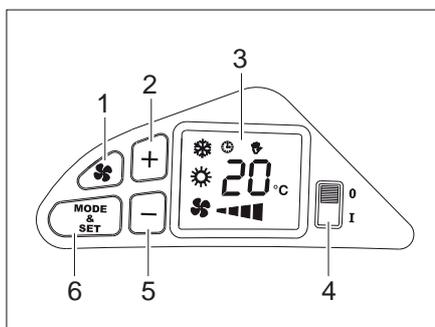

Fig. 127 Operating panel
- Switch on the air conditioning unit with the switch (Fig. 127,4). When it is switched on, the system always waits 2 minutes before it switches on the compressor and changes to automatic operating mode.
- Select the desired operating mode using the button (Fig. 127,6).
- The symbols in the display (Fig. 127,3) show the selected operating mode:
- The ventilation speed is set in manual mode by simultaneously pressing the button (Fig. 127,1) and one of the buttons (Fig. 127,2) or (Fig. 127,5).
- The temperature is set by pressing the buttons (Fig. 127,2) or (Fig. 127,5)
- Switch off the air conditioning unit with the switch (Fig. 127,4).